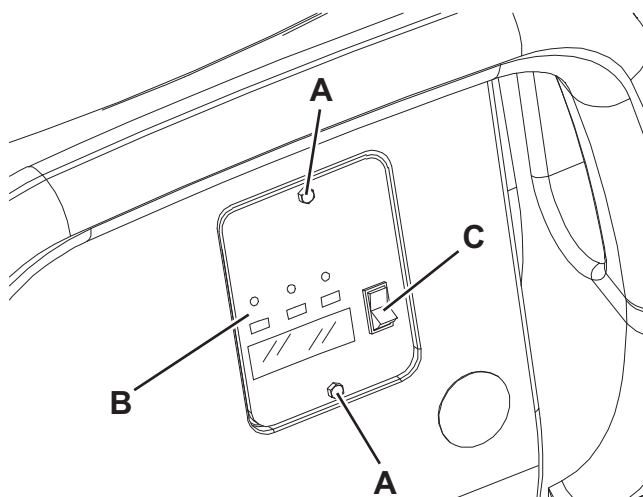

Figure 1
1. Remove the battery charger data inspection window screws (A, Fig. 1).
2. Remove the window (B).
3. Turn the battery charger selector (C) to WET for lead batteries, or to GEL for gel batteries.
4. Install the window (B) and tighten the screws (A).